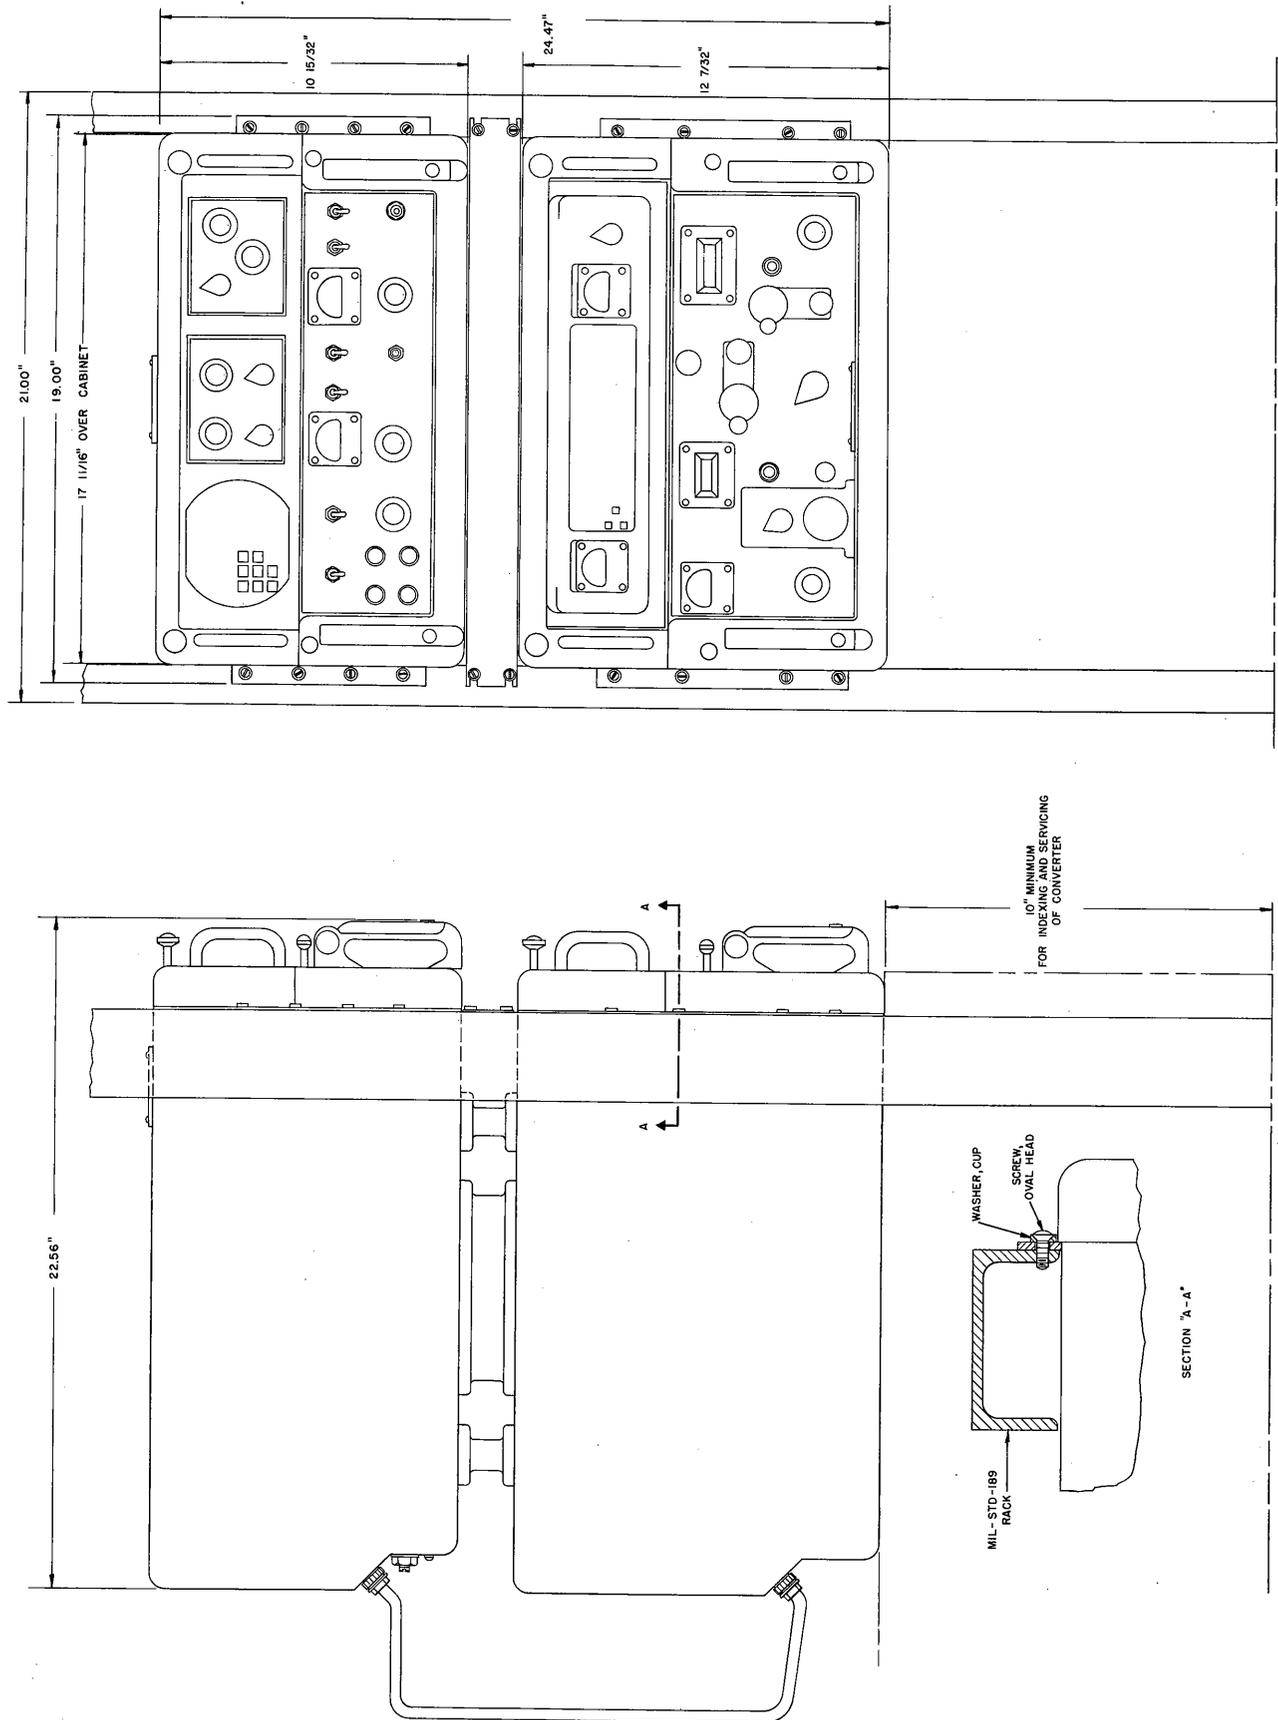

Figure 2-2. Radio Receiving Set AN/FRR-59A, Outline Drawing
(b) RADIO RECEIVING SET AN/FRR-59A.—The cabinets used for the AN/FRR-59A are identical to those used in the AN/WRR-2A. In the AN/FRR-59A receiver the cabinets are separated by five spool-shaped spacers (see figure 2-2). The small spacers are used in the corners of the cabinets while the large one is attached to the central spacer. To separate the cabinets, remove all the screws that attach the cabinets to the spool-shaped spacers.
(2) RELAY RACK MIL-STD-189.—The cabinet structures for the AN/FRR-59A have been adapted for mounting in a MIL-STD-189 relay rack by the addition of flange plates. Select a location within the rack which provides the clearances mentioned in paragraph 2-3*d* and shown in figures 2-1 and 2-2. Fasten the empty cabinet structure in place, using 16 oval-head screws and cup washers provided. See Section A-A of figure 2-2 for the correct method of mounting the individual fasteners. Fasten the panel filler strip between the two cabinets using 4 additional oval-head screws and cup washers. Make the external and interconnecting cable connections as mentioned above and replace the drawers in their respective cabinets.